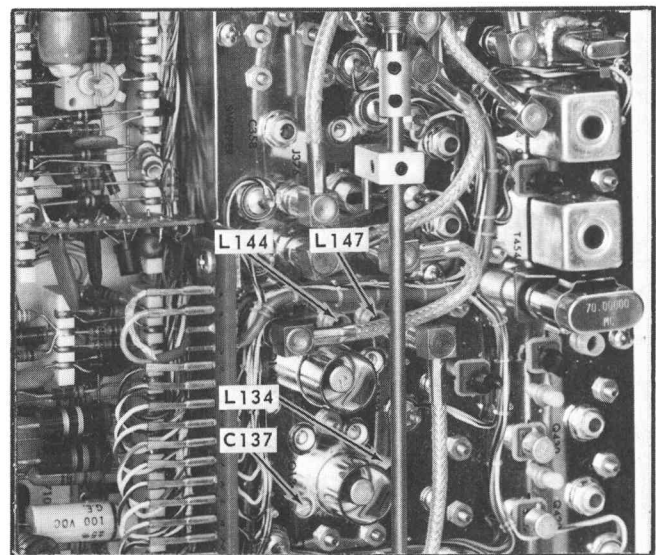

Fig. 6-17. Location of Wide-Band Amplifier adjustments (Step 9 and 10).
e. Adjust L134 and C137 (see Fig. 6-17) for the best flatness from 150 MHz to 250 MHz.
with the IF CENTER FREQ control, and adjust L144 (see Fig. 6-17) for maximum signal amplitude.
- c. Change the signal to 65 MHz and adjust L147 (see Fig. 6-17) for minimum response.